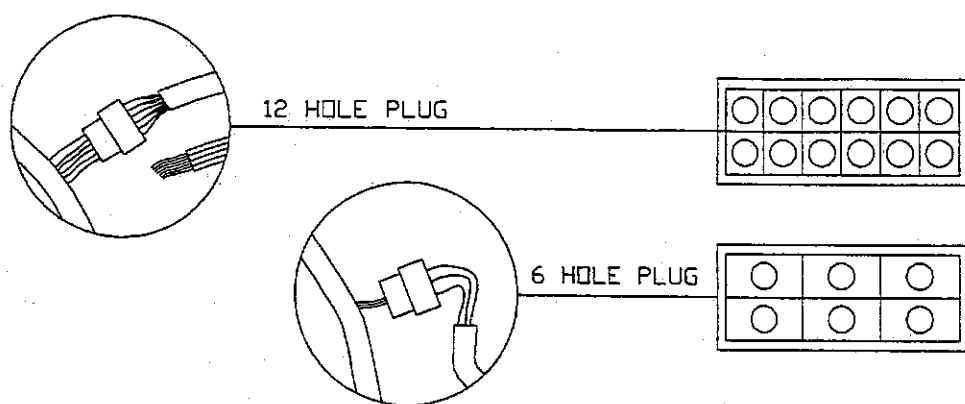

FIG. 4-41 WIRING CONNECTOR IDENTIFICATION
**4-11.31** Locate the 12-hole electrical connection which forks off the main wiring harness located between brake master cylinder and left hand fender. (See FIG. 4-41)